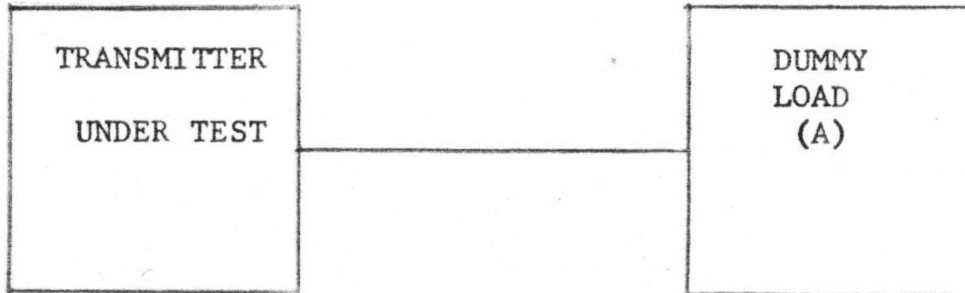

FIGURE 2.6
- a. Connect the equipment as shown in Figure 2.6